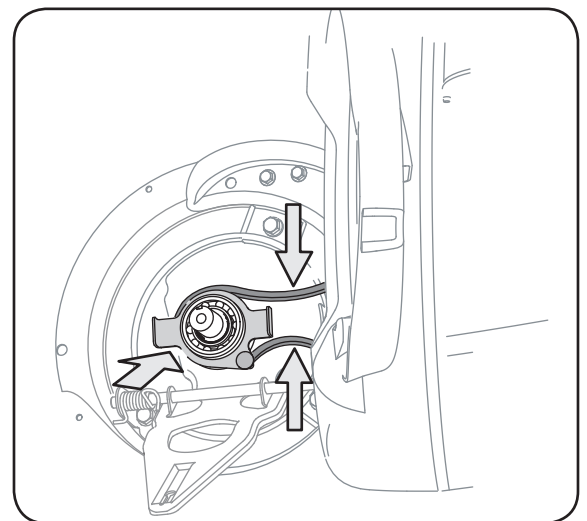

Figure 19
20. Pinch belt together so that it is not in the pulley groove, and the lower pulley can be pushed towards the engine. See Figure 19.